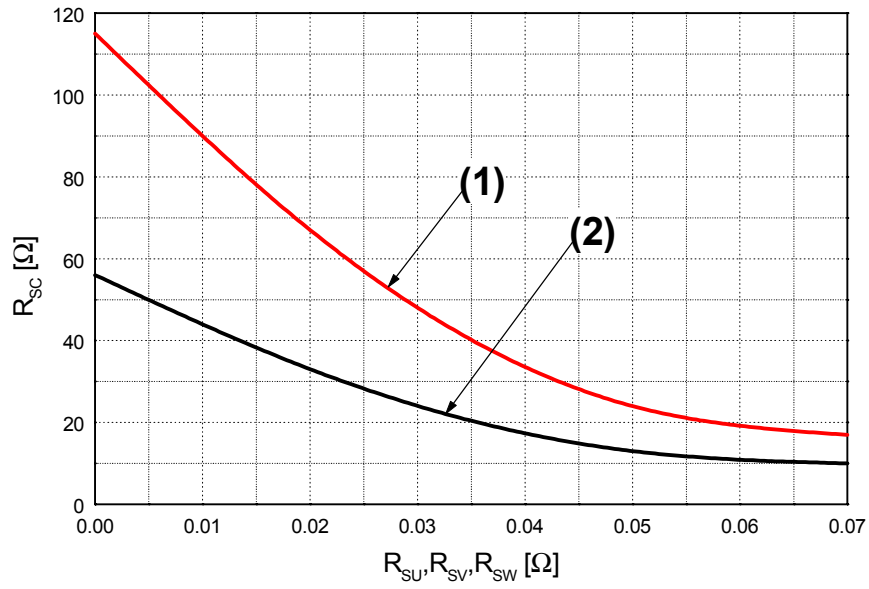

Fig. 6. R_{sc} Variation by change of Shunt Resistors (R_{SU}, R_{SV}, R_{SW}) for Short-Circuit Protection
- Short-circuit current protection is functioning only at the low-sides. It would be recommended that the value of the external sensing resistor (R_{SC}) should be selected around 56 Ω in order to make the SC trip-level of about 30A at the shunt resistors (R_{SU}, R_{SV}, R_{SW}) of 0Ω. For the detailed information about the relationship between the external sensing resistor (R_{SC}) and the shunt resistors (R_{SU}, R_{SV}, R_{SW}), please see Fig. 6.